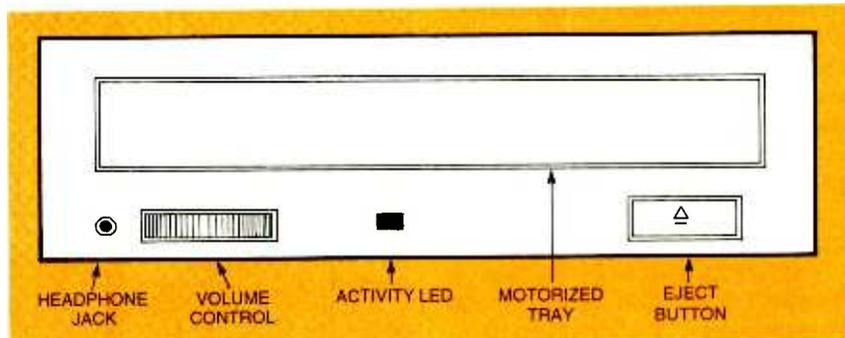

Fig. 3. The front of a DVD drive will be familiar to users of CD-ROM drives as it has the same look and controls.
**DVD Drives.** A DVD drive looks almost identical to a CD-ROM drive in size, shape, and layout. In fact, if not for the "DVD" logo on the tray, you'll probably mistake a DVD-ROM drive for a CD-ROM drive. The front of a DVD drive (see Fig. 3) carries all of the standard features that you'd find on any CD-ROM. A motorized disc tray loads and unloads the disc. You can close or open the tray by toggling the Eject button. It's interesting to note that a DVD-ROM won't eject a disc that is "locked" by a software application (such as a running movie). You will need to close your DVD application before ejecting the "locked" disc. The Busy indicator lights whenever data is being read from the drive. Since the DVD drive also supports CD audio, you can connect headphones to the headphone jack, and adjust volume right from the front panel.